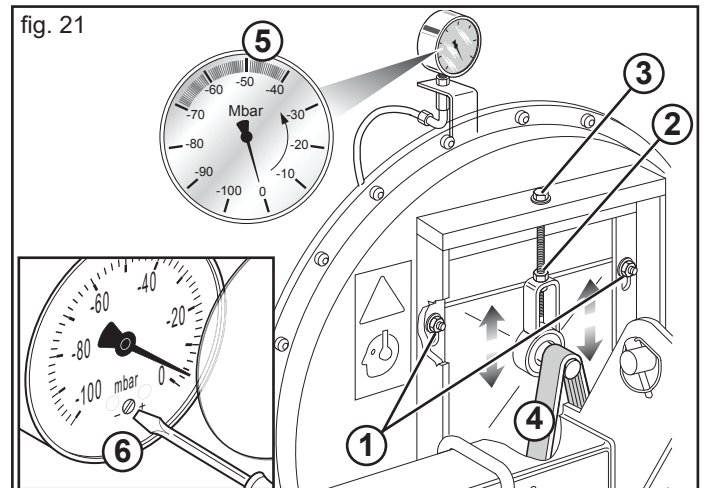

fig. 21
The aspirator (Fig. 21) creates a vacuum inside the distributors, so that the seeds are aspirated onto the holes in the plate. The tensioning and good condition of the belt are therefore of vital importance to ensure the good for the good operation of the aspirator and, hence, the success of the sowing. **The belt is correctly tensioned when it does not yield under the pressure of a hand.**
- Loosen the 4 screws (1, Fig. 21)
- Loosen the nut (2, Fig. 21)
- If worn, replace the belt (4, Fig. 21).
- Tension the belt by tightening the screws (3, Fig. 21).
The vacuometer (5, Fig. 21) is the vacuum measuring device. The one supplied shows aspiration values ranging from -0 to -100 mbar. The average approximate aspiration values are:
When necessary, remove the glass of the vacuometer to carry out a cleaning operation with a gentle jet of air or a cloth. If it is necessary to reset the indicator of the vacuum gauge, remove the glass cover and use a screwdriver to take out the screw as shown in Figure 21 (6).